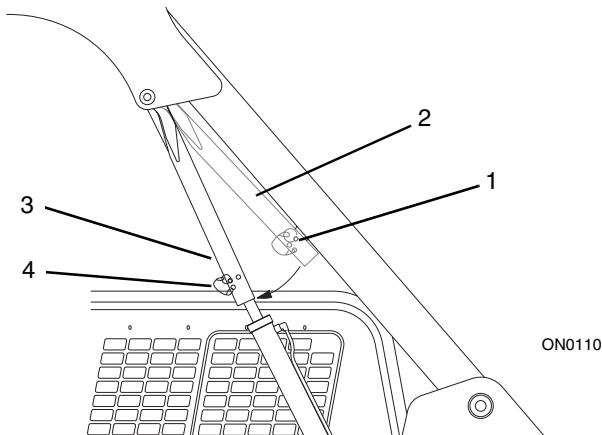
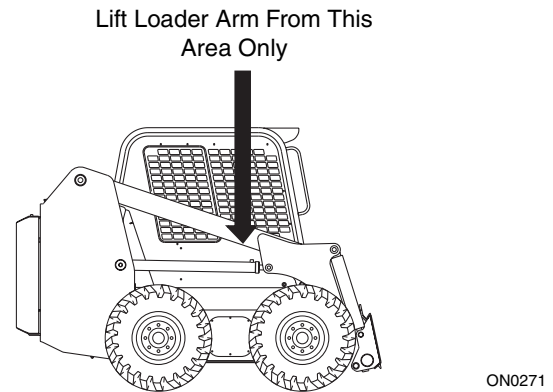

Figure 2-13 Loader Arm Safety Support
Figure 2-14 Lifting Loader Arm
5. The second person should first release the safety support pin (Fig. 2-13, 1). Now, lift the loader arm from the area shown in Fig. 2-14 by some means (an overhead hoist or another piece of equipment). Lift the loader arm only far enough to permit the attachment to be safely removed from the quick attach.
3. The second person should first release the safety support pin (Fig. 2-13, 1). Now, lift the loader arm from the area shown in Fig. 2-14 by some means (an overhead hoist or another piece of equipment) all the way up to allow engagement of the loader arm safety support (Fig. 2-13, 3).
4. When the loader arm is all the way up the person in the operator's seat should center the left foot pedal, turn the key to the OFF position, raise the seat bar and carefully exit the vehicle using the hand holds. This person should then secure the loader arm safety support with the safety support pin (Fig. 2-13, 4).